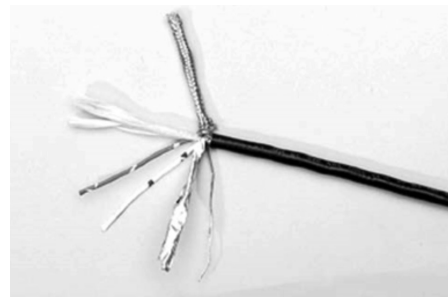

Figure 3.4 - Separating cable parts
2. Separate the cable parts. Unbraid the shield and peel back the foil shield to the same point where the outer jacket was removed as shown in **Figure 3.4**.